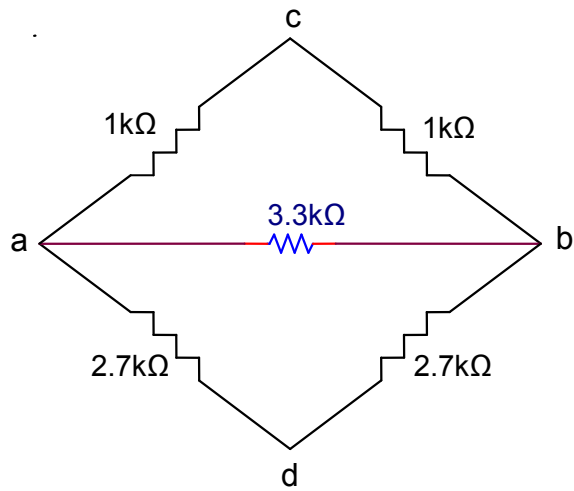

Figure 3.6
4. For the circuit of Figure 3.6 calculate the resistance between nodes:
3. Construct the circuit of Figure 3.6. Use an ohmmeter to measure the resistances listed in Table 3.4. Calculate the % error.